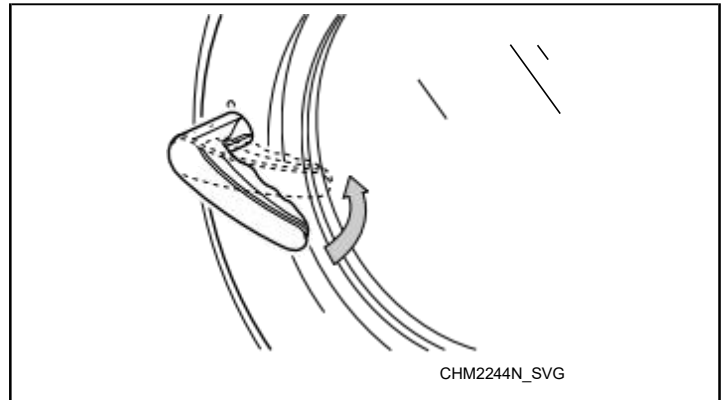

Figure 54
4. Close the door and turn handle counter clockwise. Refer to *Figure 54* .